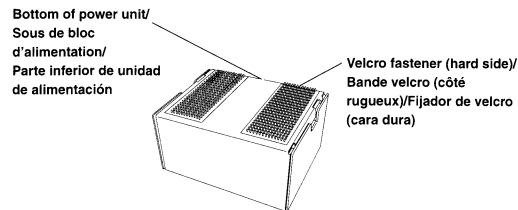

Fig. 6/Schéma 6/Fig. 6
- 1 Attach the Velcro fastener (hard side) ⑪ to the bottom of the power unit ② (see Fig. 6).
- 2 Attach the Velcro fastener (soft side) ⑪ to the floor, and secure the power unit ②.
- When attaching the Velcro fastener (hard side) ⑪ to the floor carpet, do so without the Velcro fastener (soft side) ⑪ attached.